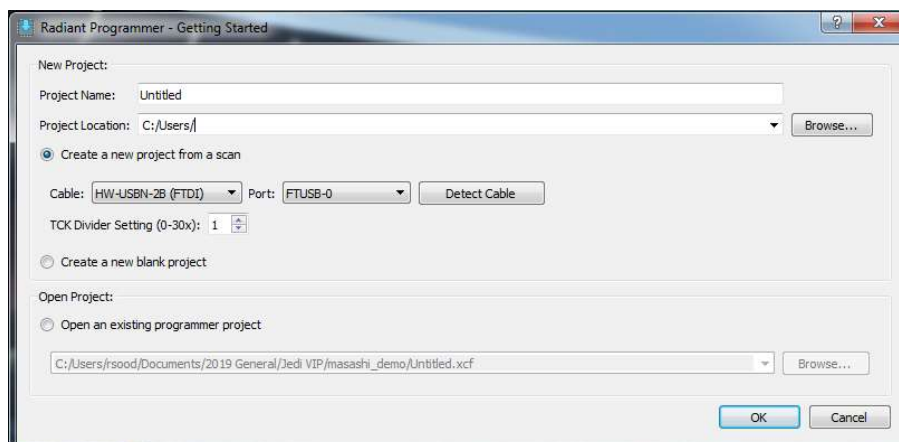

Figure 3.2. Starting Programmer
2. Start a programming project by launching the tool and initiating a board scan, as shown in Figure 3.2.